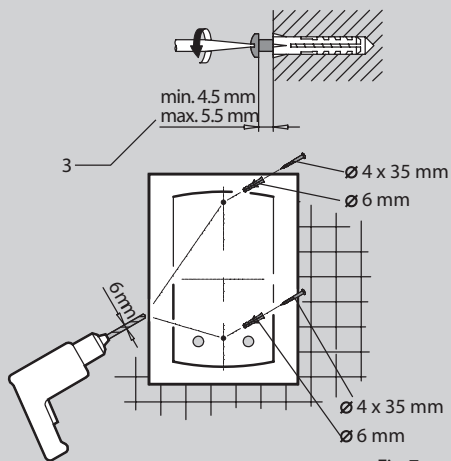

Fig 7
| <ol style="list-style-type: none"><li>1. Upper mounting hole</li><li>2. Lower mounting hole</li><li>3. Depth for mounting screw (Fig 7#3)</li><li>4. Distance of the connection cable (Fig 6#4)</li><li>5. Thermostat</li><li>6. Cable entry with seal</li></ol> | <ol style="list-style-type: none"><li>7. Electrical connection</li><li>8. Plug connecting the circuit board to the cover</li><li>9. Reed switch</li><li>10. Cold water connection</li><li>11. Hot water connection</li><li>12. Flow limiter</li></ol> | <ol style="list-style-type: none"><li>13. Circuit board cover</li><li>14. Cover</li></ol> |
- Place a drilling guide at the drilling position in order to drill a hole in the wall (Fig 7).
- Insert a wall plug and screw in (the depth of the protruding screw head must be correct) (Fig 7#3).